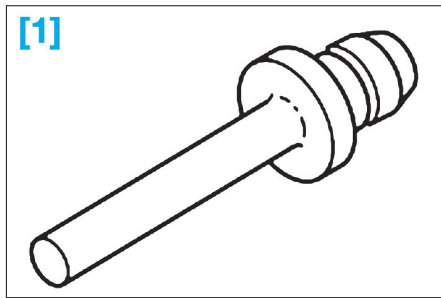

FIG. 32
- [1]. Poinçon Ref. VW 411 (Fig.32).